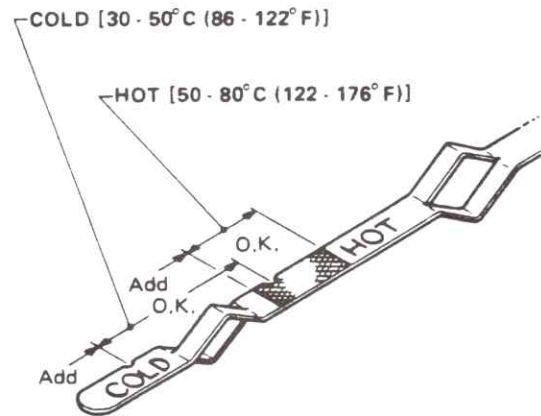

Fig. 7.2 Checking automatic transmission fluid level (Sec 3)
- 2 The precise level of the fluid will depend on the ambient temperature (see Fig. 7.2). First park the car on a level surface and apply the handbrake.
- 4 Move the selector lever slowly through each position ending in Park (P).